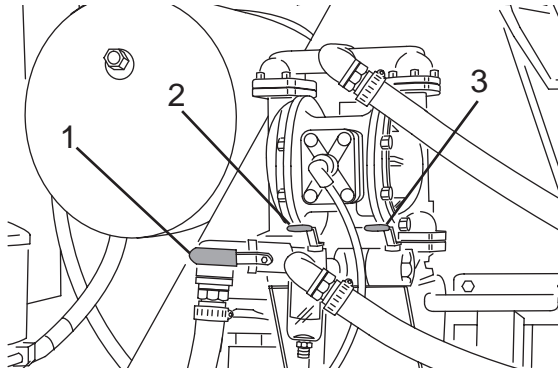

Figure 80
2. Open the main tank ball valve (Figure 80, Item 2) and chemical tank ball valve (Figure 80, Item 1) (if equipped).